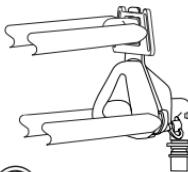
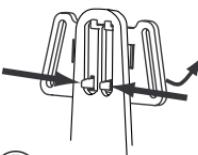

Figure 5
Figure 6
1. Remove the headstrap and spacer from the mask (Figure 5 and Figure 6). Fill a container with enough water to cover the entire mask. (DO NOT put the mask in the water at this time.) Place the container over heat and bring the water to a boil. Remove the container from the heat.